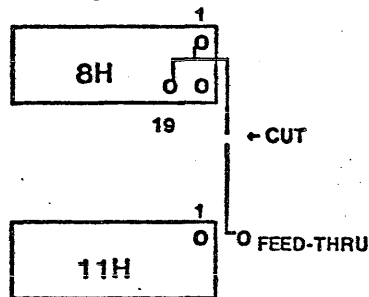

FIG 1
- 6) CUT ETCH BETWEEN "T" JUNCTION POINT (ETCH CONNECTS TO ETCH FROM 8H19 TO 8H1) AND FEED-THRU NEAR 11H1. SEE FIG 1.